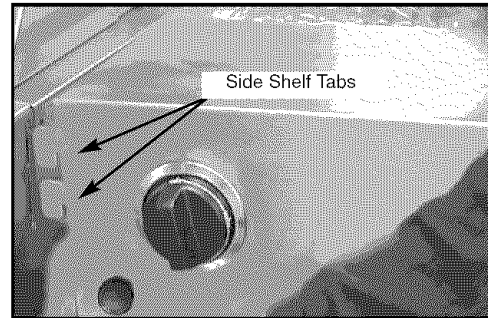

Fig. 8
1. Attach the side shelf to the grill by inserting the shelf hooks into the slots on the side of the grill and pushing down on the shelf assembly until level with the grill. (See Fig. 8)